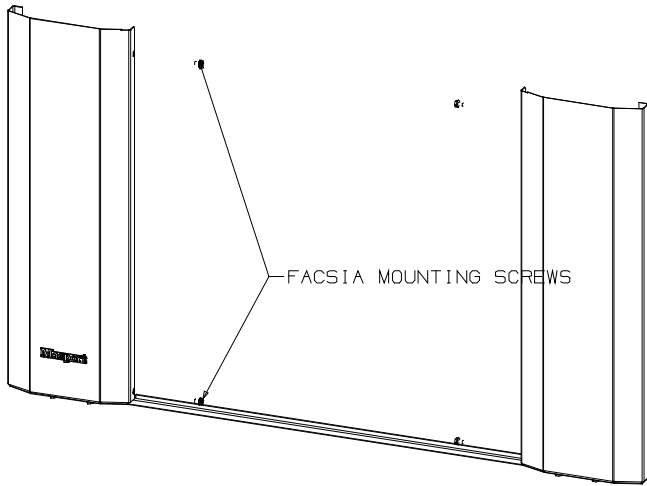

Fig 3.
- 8) Offer the assembly up to the fireplace once more and secure through the two holes on the inner edges of each fascia side panel using the self tapping screws provided. See Fig 3.